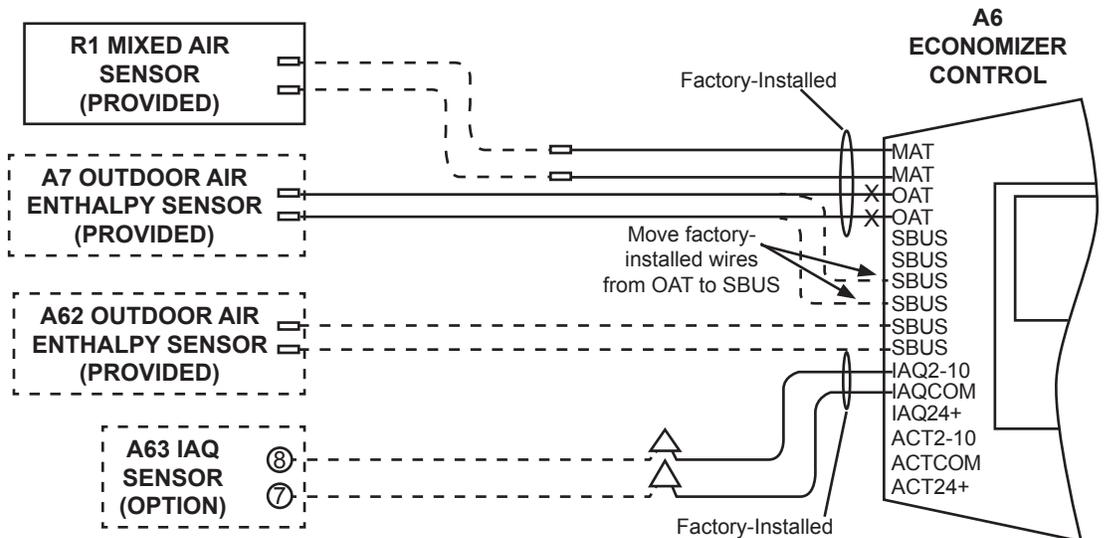

Figure 8
2. Connect any optional sensors as shown in figure 8.